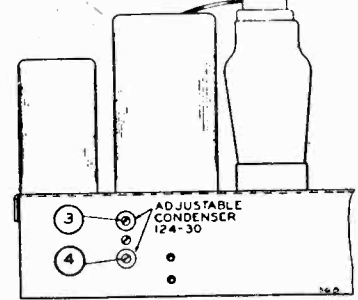

FIG. 4—REAR VIEW
- (c) Re-set external oscillator to 1400 K.C., rotate variable gang condenser and pick up signal. Adjust broadcast antenna trimmer (Adjustment number 4) to resonance; (See rear view of chassis; Fig. 4, for location of this adjustment).
- (b) Adjust short wave antenna trimmer (Adjustment Number 3), to resonance; (see Fig. 4 rear view).